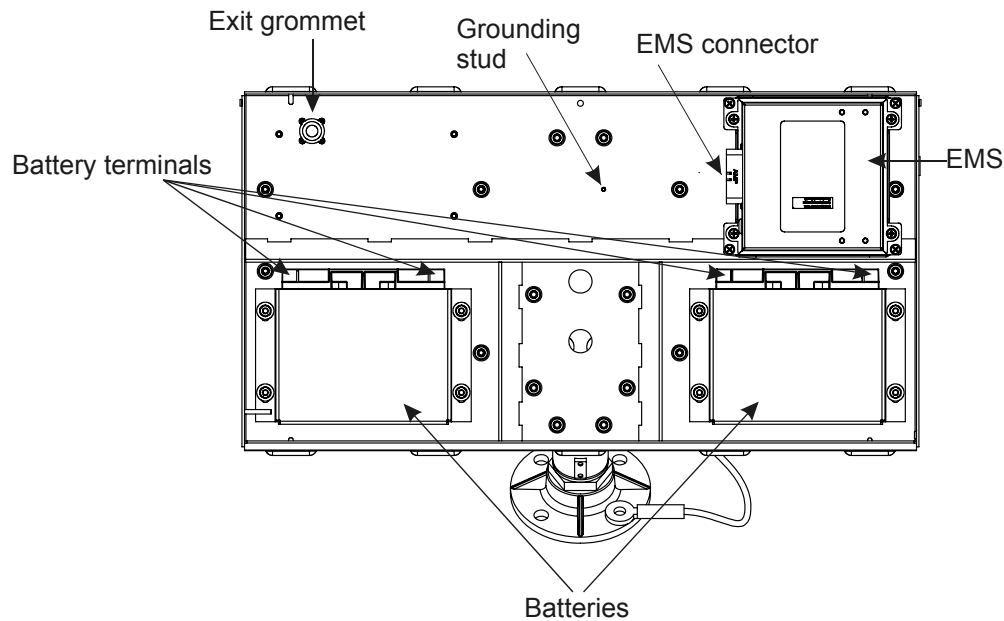

Figure 5-5: Solar engine internal components
The internal components of the solar engine are shown in Figure 5-5. The batteries are shipped fully charged in separate packaging. Ensure that you have connected the battery harnesses before installing them in the solar engine; see 5.3 Battery Harness for the procedure to connect the harnesses.
2. Open the solar engine cover. Use the internal retaining leg to hold the cover open. Figure 5-5 shows the internal components of the solar engine.
11. Insert the batteries into the solar engine with the terminals up and toward the EMS; see Figure 5-5.